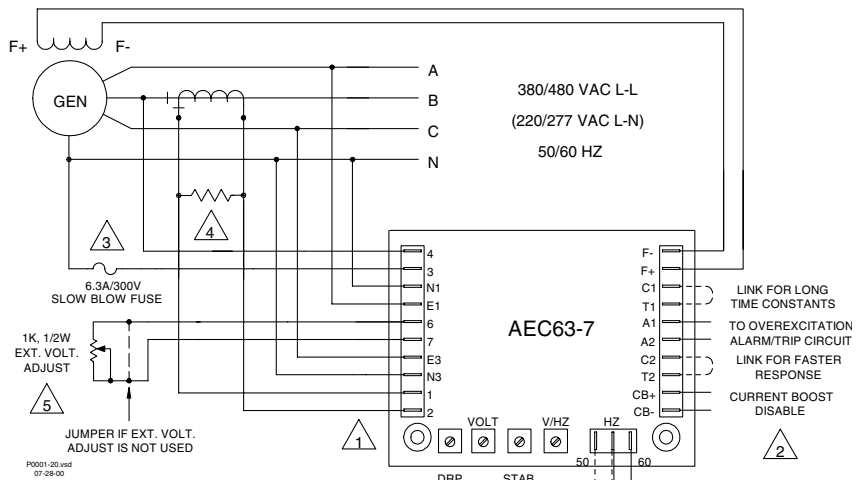

Figure 5. Typical AEC63-7 Interconnection, Two-Phase Sensing, Shunt Excitation
Connect wiring as shown in Figures 5, 6, and 7. Power for the regulator is derived from a suitable generator winding, auxiliary winding, transformer, or permanent magnet generator (PMG) of suitable frequency, connected to terminals 3 and 4. The operable power input range is 190 to 277 Vac at 50 to 400 hertz.
When paralleling is required, a 1A secondary current transformer (CT) should be connected to terminals 1 and 2. The ratio of the CT must be chosen so that the maximum current applied to terminals 1 and 2 does not exceed 1 A rms. The value of the internal burden is 4.7 ohms. These terminals may either be linked or left open when paralleling is not required. The amount of droop is adjusted by the Droop potentiometer. Observe the correct phase relationship for the CT (normally this is in the phase which is *not* being sensed). If only a 5 ampere CT is available, then a 1 ohm, 50 watt resistor should be used in parallel with the CT input terminals (1 and 2). See Figures 5, 6, and 7 for interconnections. Basler part number 9 2841 00 100 may be used for this function.
The voltage regulator is shipped from the factory with a jumper wire across terminals 6 and 7. If a remote voltage adjust potentiometer is used, the jumper wire should be removed and the Voltage Adjust Rheostat connected to 6 and 7. A 1 kilo-ohm, 0.5 watt potentiometer will provide a fine voltage range adjustment of approximately ±10 percent over most of the coarse range of adjustment. See Figures 5, 6, and 7 for interconnection diagrams. Basler part number 17727 may be used for this function.